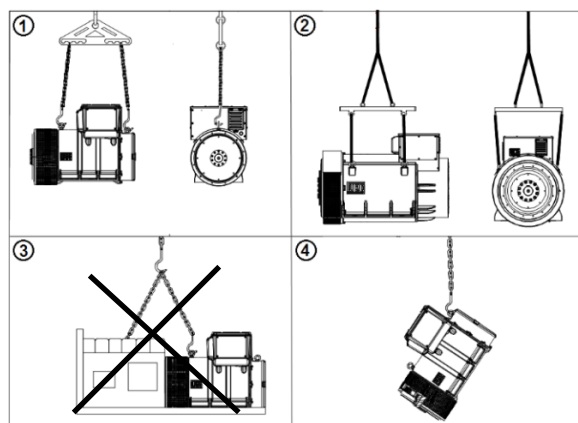

Figure 3.1: Handling of alternator
- The position 1 of Figure 3.1, represents the correct way of handling the alternators AG10 250, 280, 315 and 355;
- The position 2 of Figure 3.1, represents the correct way of handling the alternator AG10 400;
- The positions 3 and 4 of Figure 3.1 represents the incorrect ways of handling the alternators.